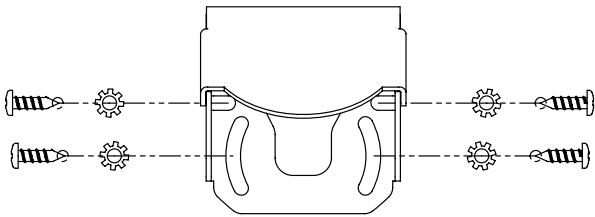

Figure 1
- 3 Attach the camera bracket to the mounting surface using the 4 screws provided. See Figure 1.